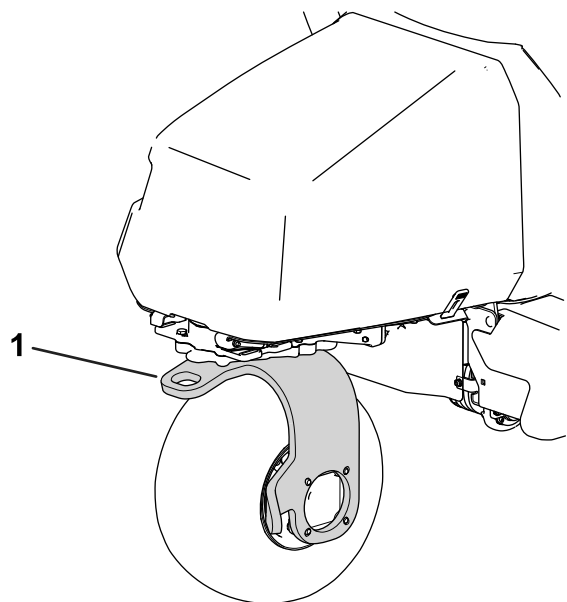

Figure 42
13. Use the rear castor fork to tow the machine (Figure 42).